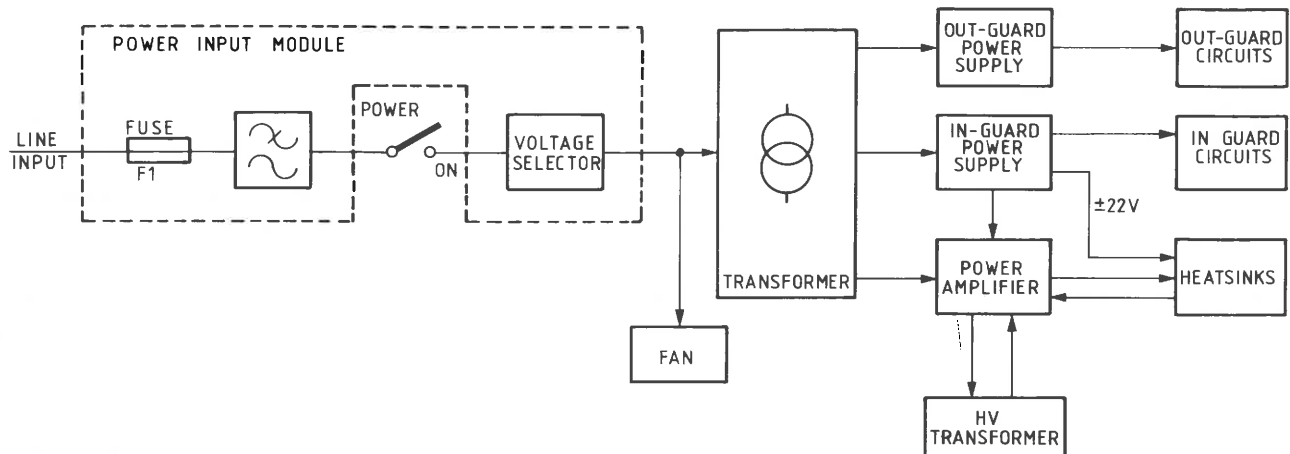

FIG. 4.36 POWER DISTRIBUTION BLOCK DIAGRAM
A simplified power distribution block diagram appears at Fig. 4.36.
4.11.1 Line Power Distribution (Fig. 4.36 and Circuit Diagram No. 430439)